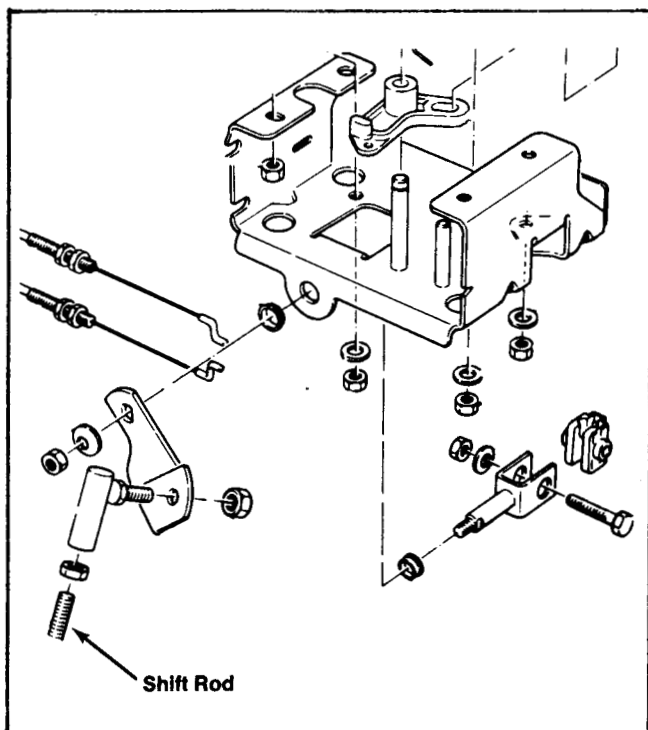

Figure 23
3. Disconnect the shift rod from the power shift control box. See Figure 23.